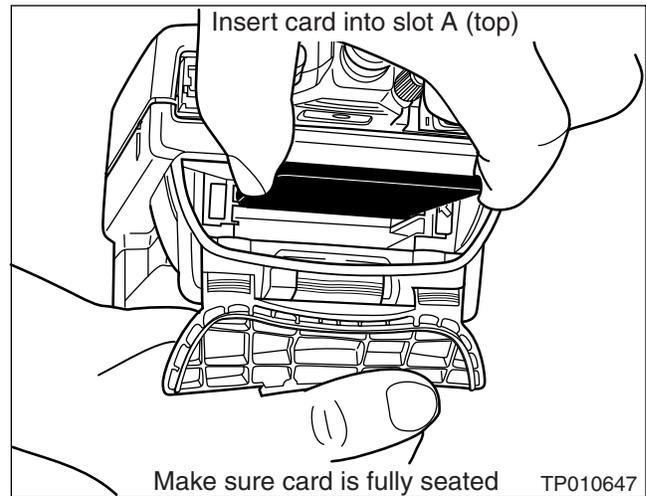

Figure A1
1. Install the Diagnostics Card (red/white) into slot A of CONSULT-II (see Figure A1).